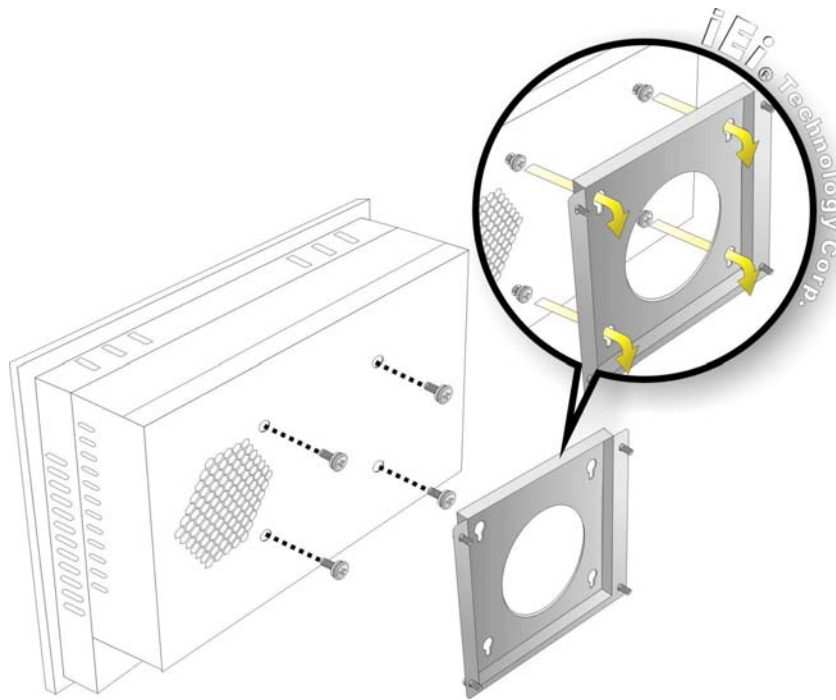

Figure 4-20: Mount the Chassis
- Step 6:** Insert the four monitor mounting screws provided in the wall mounting kit into the four screw holes on the rear panel of the monitor and tighten until the screw shank is secured against the rear panel (**Figure 4-20**).
- Step 8:** Carefully insert the screws through the holes and gently pull the monitor downwards until the monitor rests securely in the slotted holes (**Figure 4-20**). Ensure that all four of the mounting screws fit snugly into their respective slotted holes.